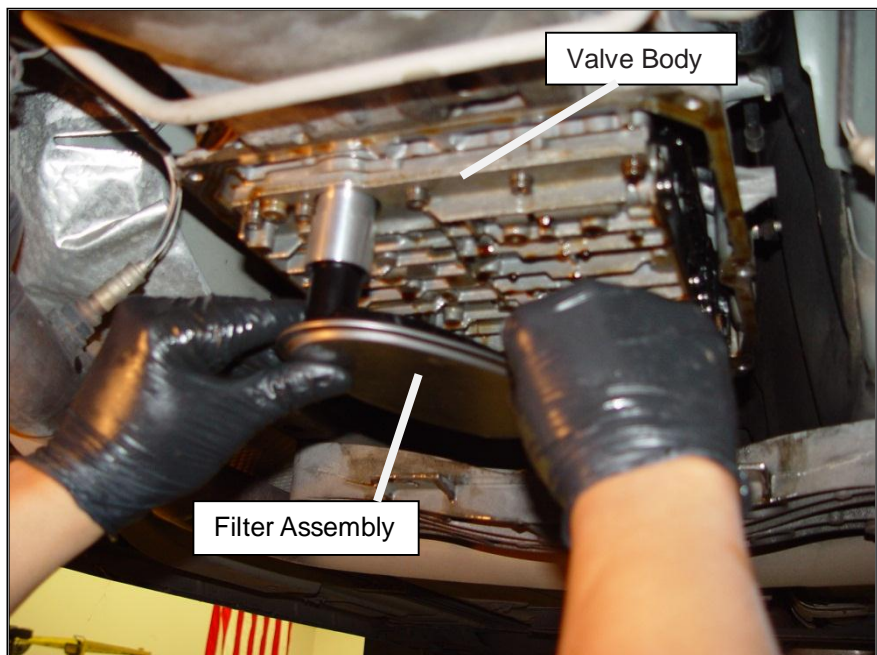

Figure 3
**STEP 8.** Install the filter assembly into the valve body (See Figure 3).